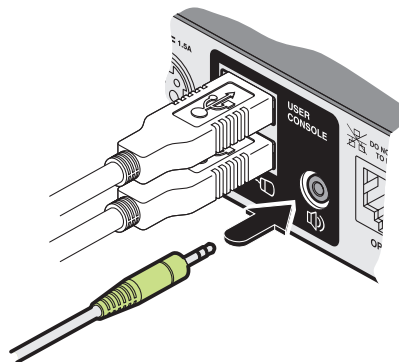

Figure 3-3. Connecting speakers to the user console.
4. Audio: Where required, connect the lead from your speakers to the audio socket. See Figure 3-3.